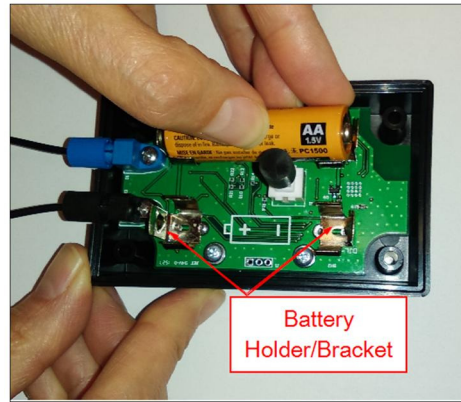

Figure 13 - Inserting or removing batteries: Push the battery into the battery bracket
1. Remove the 4 recessed, Phillips-head screws and open the Transmitter case to access the battery compartment (see Figure 13).